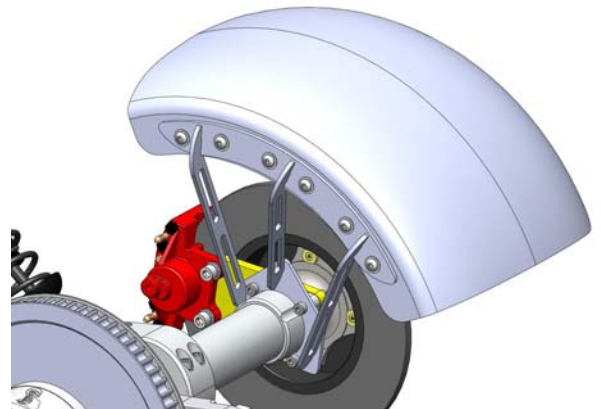

Figure 14
- d. Attach fenders to brackets using the supplied hardware. Torque to 17 lb. ft. Figure 14 and 15